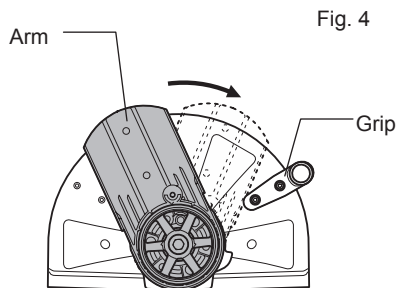
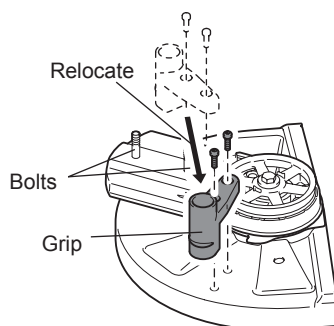

Fig. 4
Fig. 5
- Rotate the arm until it contacts the grip and return the lock shaft to the original position by hand. (Fig. 4) Reposition the grip. (Fig. 5)